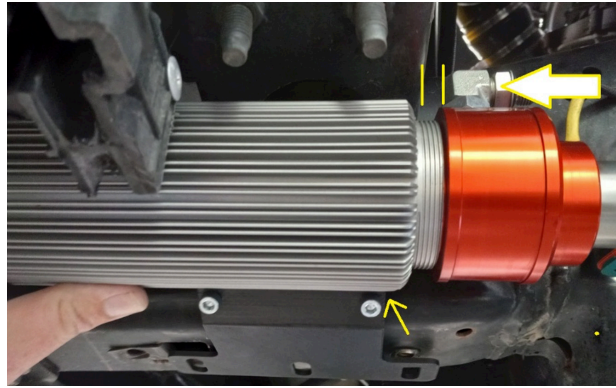

Fig. 17: Reservoir positioning.
8. Reposition the reservoir assembly on the bracket and tighten the ¼-20 screws to 76 in-lbs. Blue threadlock was applied earlier. Push the reservoir assembly forward on the vehicle as much as possible (Fig. 17).